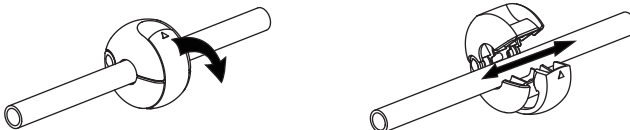

FIG. 4
3. Close the latch to secure the stop ball in place (Fig. 4).